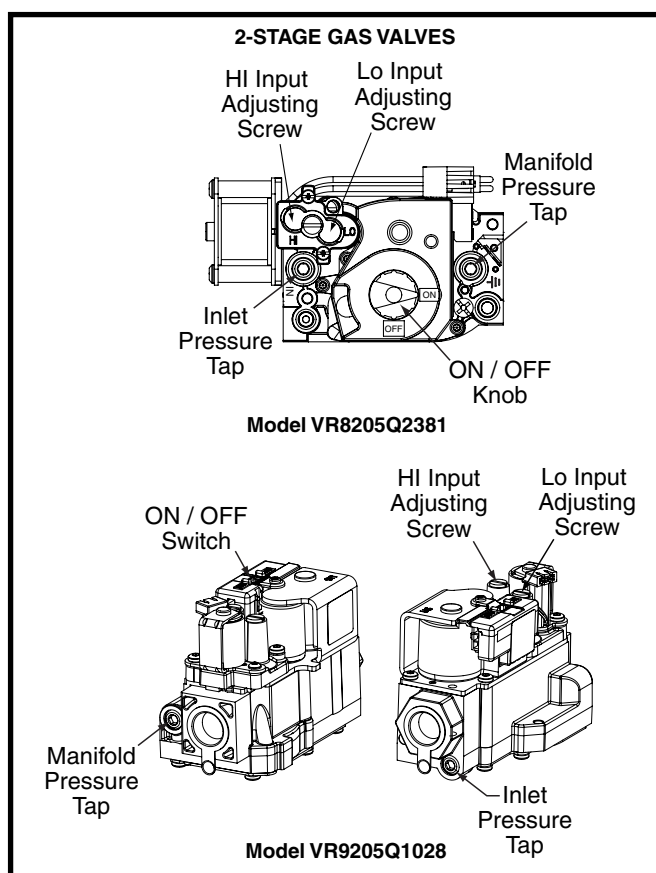

Figure 25. HI & LO Input Adjusting Screws
- c. Using an Allen wrench, turn the the LO Input Adjusting Screw on the LO side of the regulator to adjust the reduced input setting or turn the HI Input Adjusting Screw on the side of the regulator to adjust the full input setting. See Figure 25 \(page 25\). **NOTE:** Turning the adjusting screw clockwise increases the pressure and counterclockwise reduces the pressure.